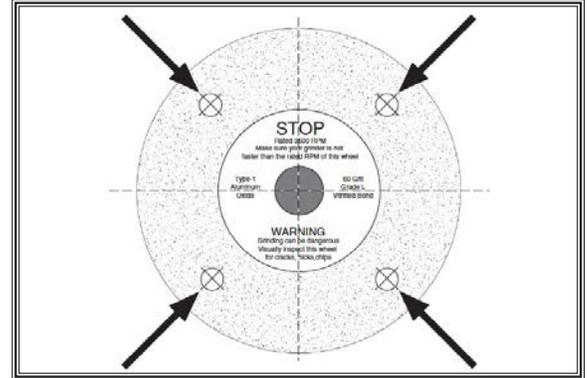

Figure 7. Tapping locations for a ring test.
3. At the four spots on the wheel shown in **Figure 7** gently tap wheel with a non-metallic object, such as a screwdriver handle or wooden mallet.